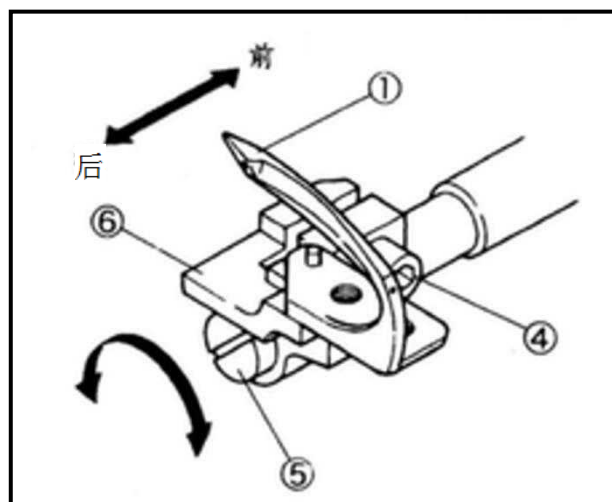

Fig.54
当弯针①移动从左到右，会在真的后面。调整其位置使弯针更接近机针，其间隙 0-0.05mm，但不能碰到机针，当弯针的尖端在左针中间时，放松螺钉④转动螺钉⑤调整前后位置。调整之后检查间隙和锁紧螺钉④。(Fig.54 , 55)
When the looper① moves from the left to the right, it passes behind the needle. Adjust the position so that the looper comes closely to the needle with the clearance of 0-0.05 mm but without touching them when the looper tip comes at the center of the left needle. Loosen the screw④ and turn the adjusting screw⑤ to adjust it. After adjusting, check the distance and tighten the screw④ securely. (Fig.54,55)